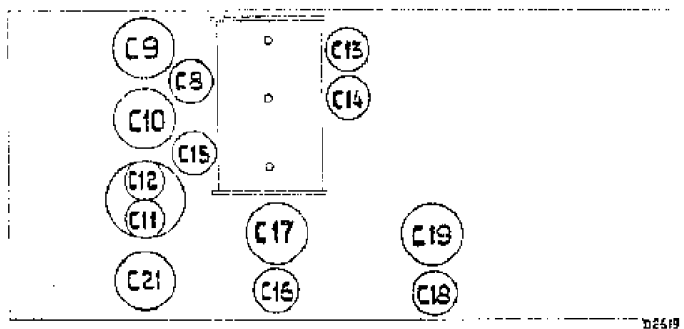

Fig. 4.
11. Trim C19 for maximum output (see Fig. 4).
4. Adjust S8 for **minimum** output (see Fig. 4).